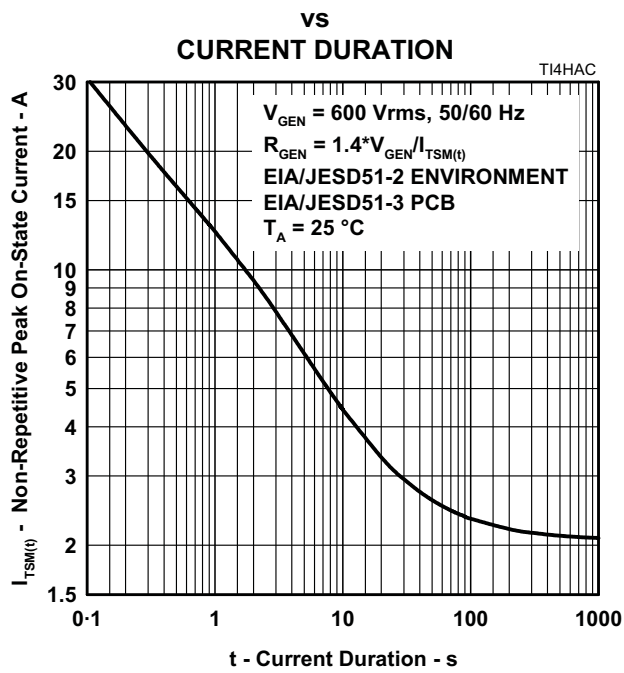

Figure 5.
4. EIA/JESD51-2 environment and EIA/JESD51-3 PCB with standard footprint dimensions connected with 5 A rated printed wiring track widths. See Figure 5 for the current ratings at other durations. Derate current values at  $-0.61\%/\text{C}$  for ambient temperatures above  $25^\circ\text{C}$ .